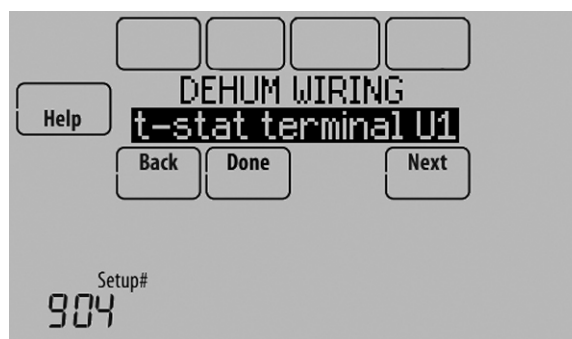

Fig. 150.
2. Select the terminals wired to the Dehumidifier. See Fig. 150.